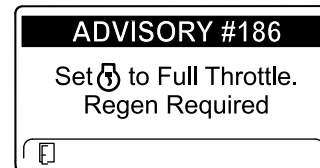

Figure 73
**Note:** If the engine exhaust temperature is too low, the InfoCenter displays ADVISORY #186 (Figure 73) to inform you to set the engine to full throttle (high idle).